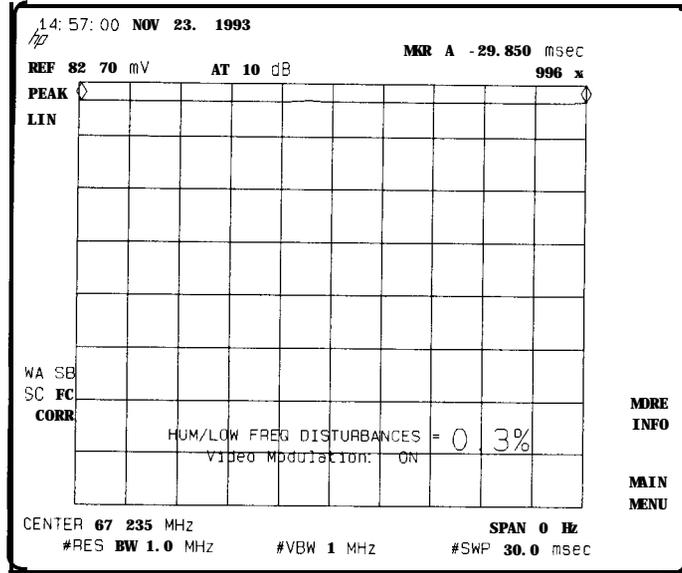

Figure 8-6. HUM, Video Modulation On
When video modulation is on, the video bandwidth is set to 1 MHz to allow the analyzer to measure only the values of the sync tips. See Figure 8-6. When the video bandwidth is set to 1 MHz, significant noise is also present. This noise is digitally minimized, then several peak-to-peak measurements are taken and averaged. Using the average of these measurements gives the best consistency with visual oscilloscope measurements. However, the effects of noise cannot be completely eliminated and the results reported have slightly more uncertainty (usually less than 1 percent larger) than when video modulation is off. The reverse, however, is not true. That is, when adding modulation to a carrier wave signal, results will increase, not decrease. For example, if the results are less than 3 percent with modulation on, FCC rule 76.605(a)(10) is satisfied. If a channel does exceed 3 percent, it may still pass by testing again without video modulation.